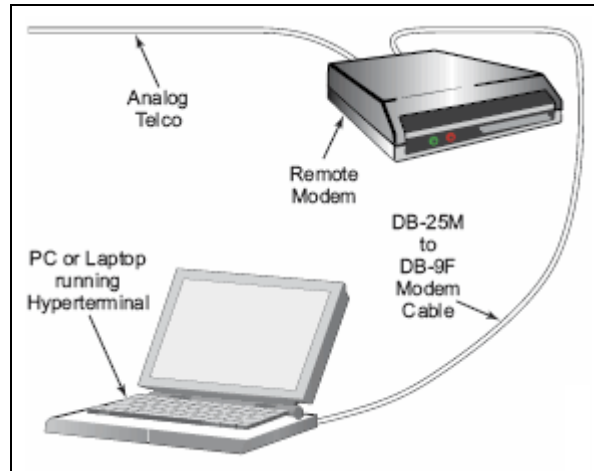

Figure 6-4 Remote modem setup
1. Connect the remote modem to the workstation, as shown in Figure 6-4.